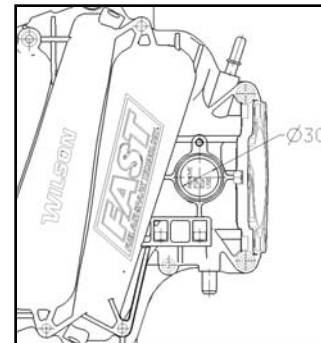

Fig.12
- 4) For EGR use (1998-2002 Camaro/Firebird) you must open the hole in your new manifold. Use a large diameter drill and Dremel type tool to modify polymer (30mm hole). Be careful not to damage the upper diameter where the o-ring seals (Fig.12).